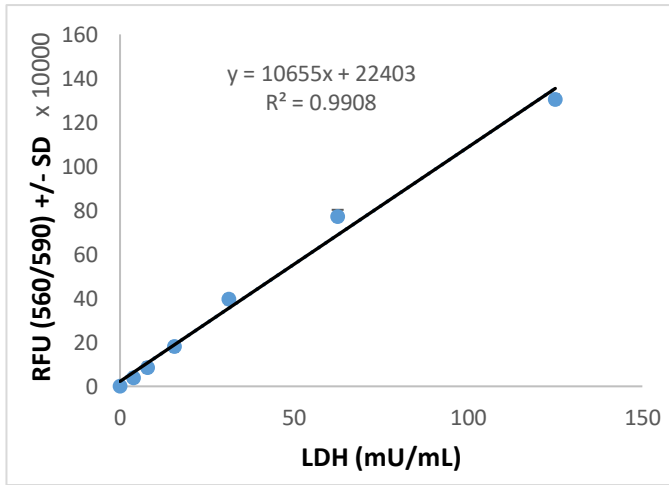
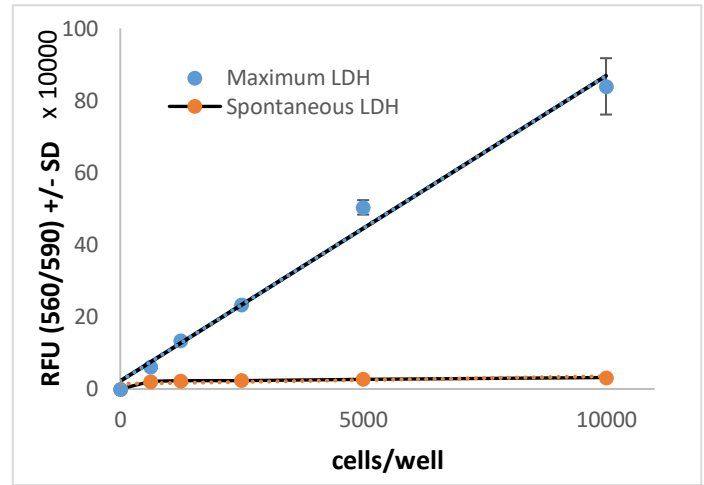

Figure 1. LDH standard curve measured by LDH-FL Assay.
Figure 2. LDH-FL assay is applied to human primary cells cultured with and without cell lysis buffer.
Data from LDH Cytotoxicity Assay of LDH positive control with concentrations ranging from 1.9 to 125 mU/mL shows a linear relationship between fluorescent intensity and LDH concentration (Figure 1). This assay is also applied to primary cells seeded at different densities with (Maximum LDH release) and without (Spontaneous LDH release) Lysis Buffer (Figure 2).
- Based on the calibrated fluorescent intensity of the LDH standard, make a standard curve by plotting fluorescent intensity as a function of LDH concentration (See Figure 1 for a typical standard curve). Determine the equation and  $R^2$  value of the trend line.